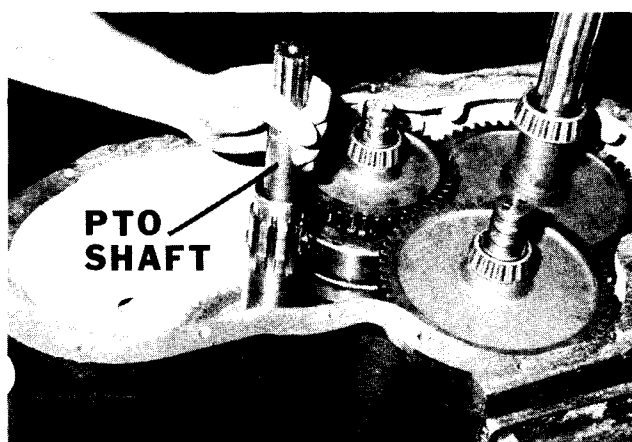

Figure 50
7. Install PTO shaft assembly into ball bearing in case (Figure 50).